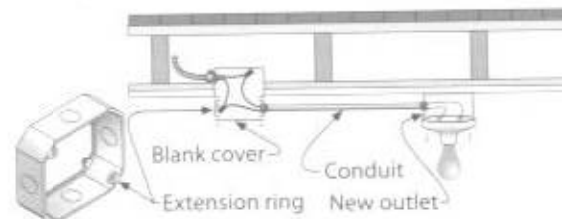

Fig. 13-24 Using extension rings makes it easy to add to existing outlets in locations where the new wiring may be permanently exposed.
**Extension rings** Where the new wiring may be permanently exposed, as in basements, it is sometimes convenient to use an extension ring, which is like an outlet box without a back. Remove the fixture of the existing outlet, mount the extension ring to the flush box, then run cable or conduit for the new run from the extension ring. Replace the fixture on top of the ring. See Fig. 13-24.